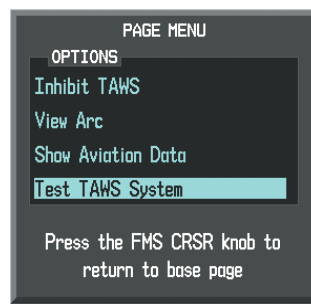

Figure 6-163 TAWS-B Page Menu
- 2) Press the **MENU** Key (Figure 6-163).